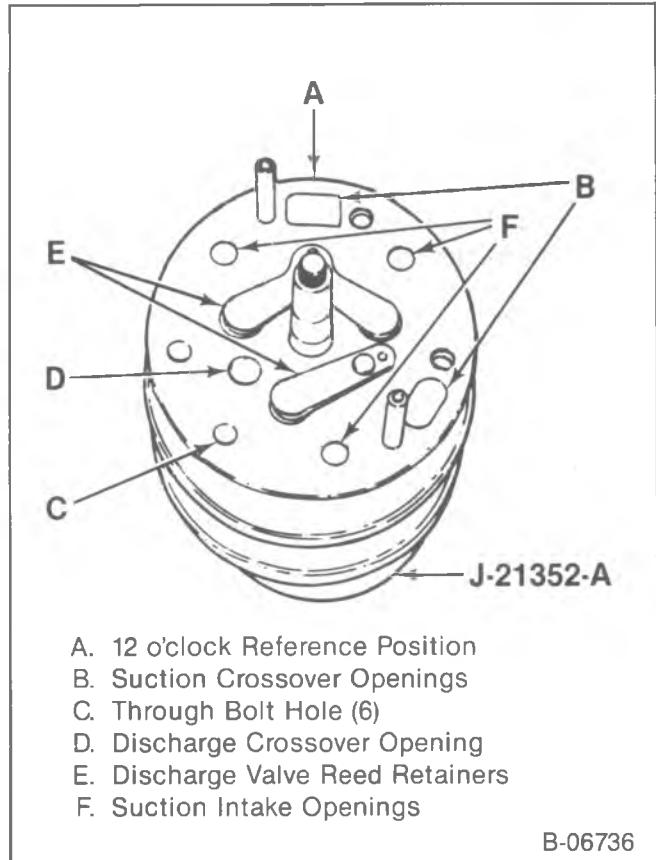
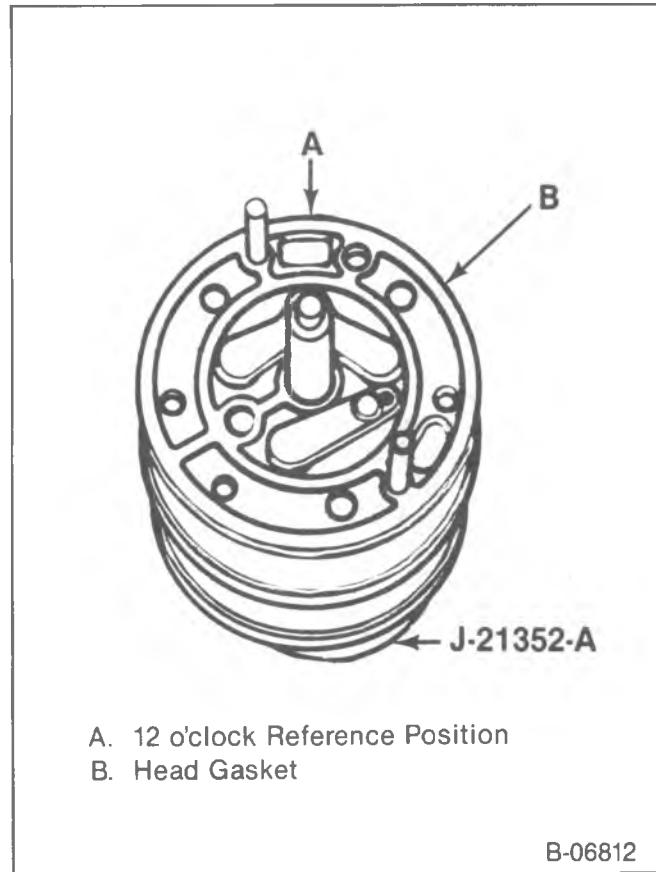

Figure 36—Installing the Front Valve Plate
Figure 37—Installing the Seal to the Front Head
- 9. Valve plate (13).
- Over J-33016 guide pins (figure 36).
- 10. Head gasket (12).
- Over J-33016 guide pins (figure 37).
- 11. Front head (11).